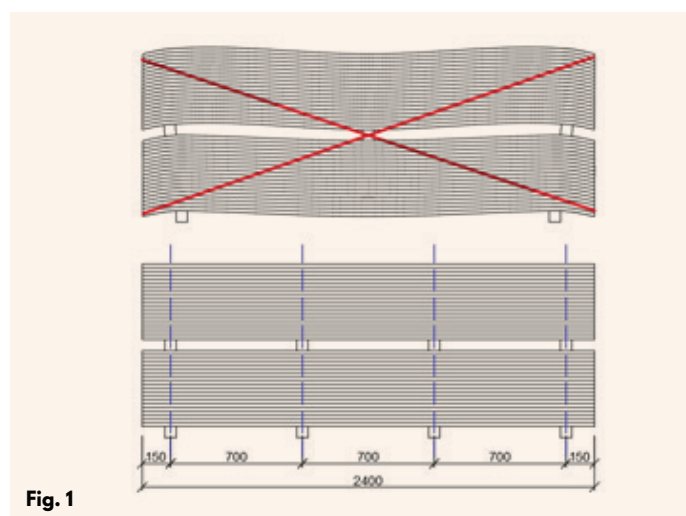

Fig. 1
*VMG Lignum Board | Floor* should be stacked horizontally on wooden battens (100 x 80 mm). Wooden battens should be of the same dimensions and spaced no further than 700 mm apart. At the edges, *VMG Lignum Board | Floor* should not project from the last wooden battens by more than 150 mm. Wooden battens should be vertically aligned to avoid damage (Fig. 1).